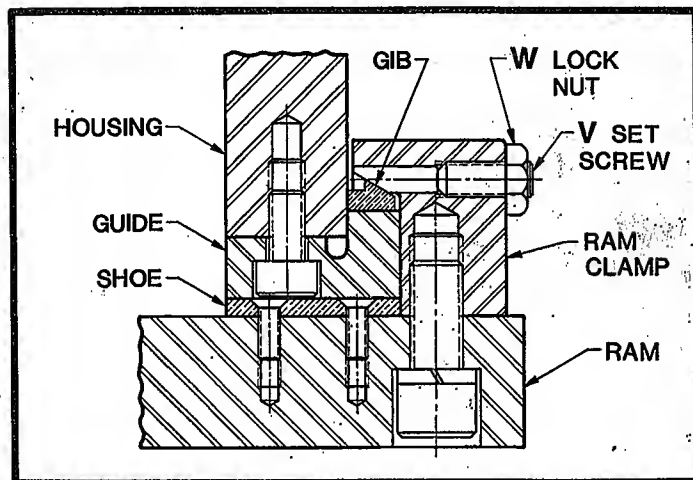

FIGURE 79
- Adjust top left and top right ram clamp gibs only. Refer to Figure 79: